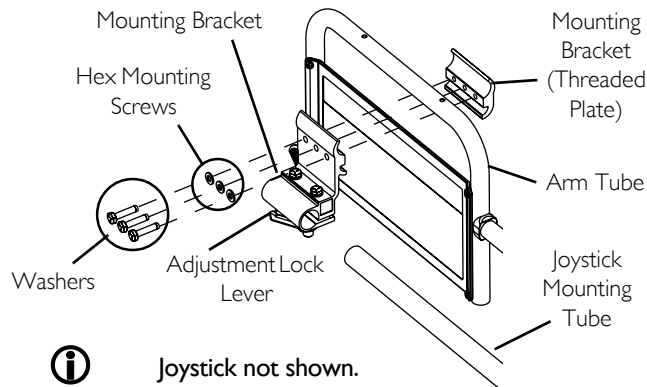

FIGURE 10 Repositioning Joystick
For this procedure, refer to FIGURE 10.
4. Reposition mounting bracket on opposite arm tube ensuring the threaded plate of the mounting bracket is on the inside of the arm tube as shown in FIGURE 10.